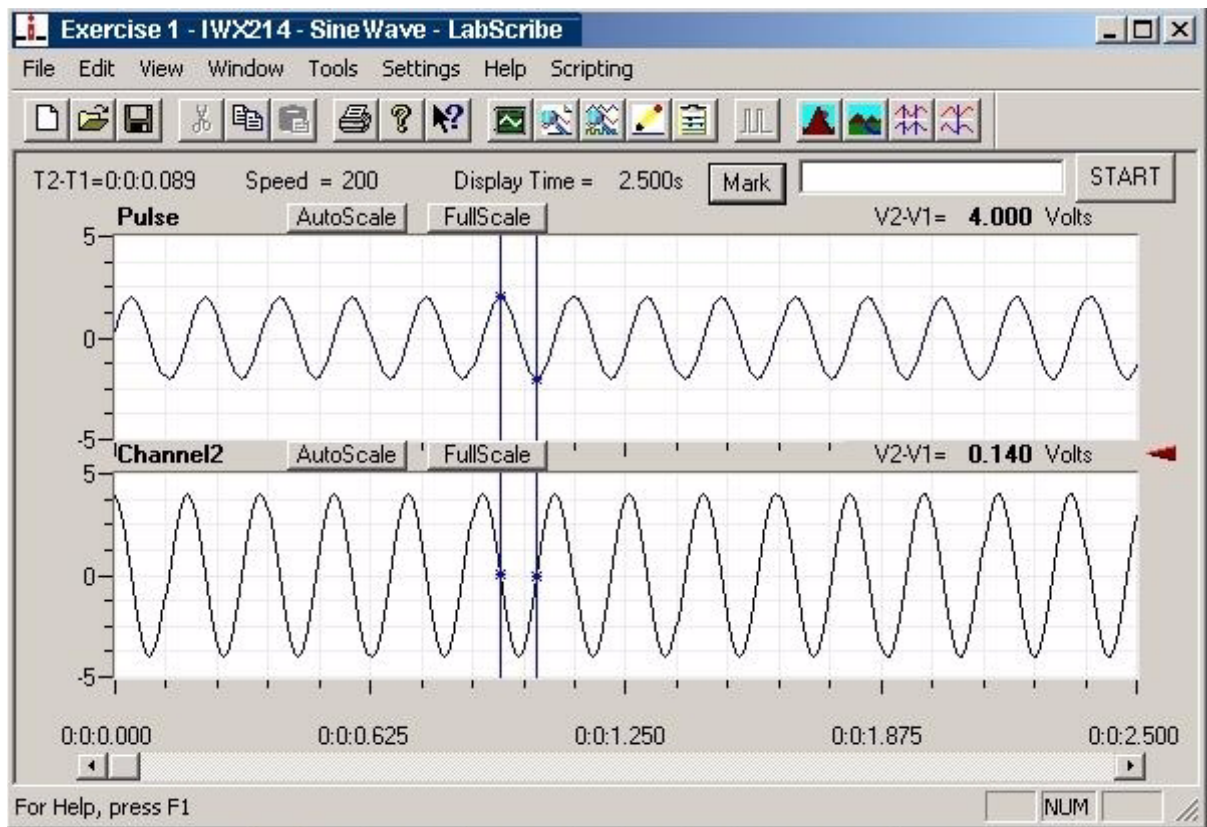

Figure 3-4: Cursors placed on LabScribe Main window to measure voltage difference, V_2-V_1 .
- Position **Cursor 1** so that it is over the maximum value in a given cycle, then position **Cursor 2** over the minimum value as shown (Figure 3-4 on page 22). The **Value** reported will be 4V.